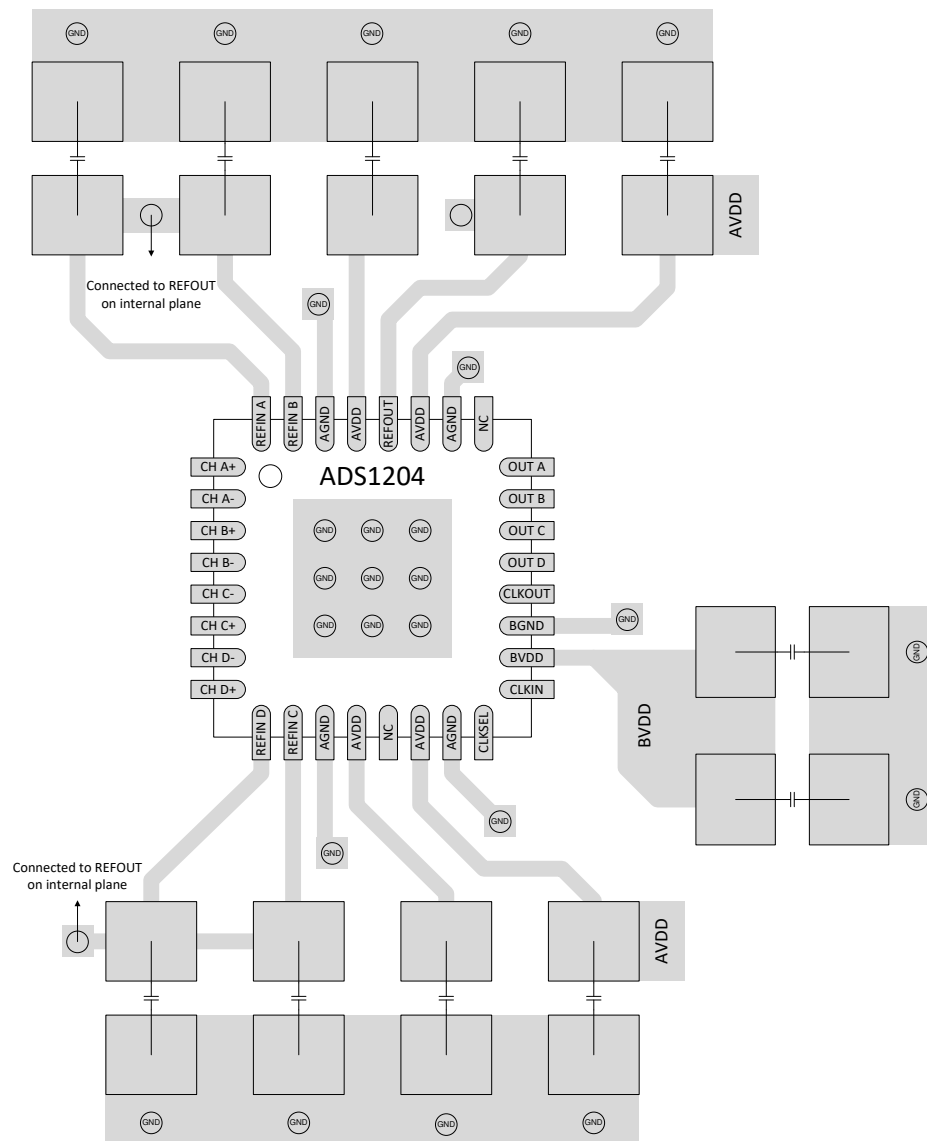

**Figure 36. System Component Placement**
Employing best design practices is recommended when laying out a printed-circuit board (PCB) for both analog and digital components. This recommendation generally means that the layout separates analog components [such as ADCs, amplifiers, references, digital-to-analog converters (DACs), and analog MUXs] from digital components [such as microcontrollers, complex programmable logic devices (CPLDs), field-programmable gate arrays (FPGAs), radio frequency (RF) transceivers, universal serial bus (USB) transceivers, and switching regulators]. Figure 36 shows an example of good component placement. Although Figure 36 provides a good example of component placement, the best placement for each application is unique to the geometries, components, and PCB fabrication capabilities employed. That is, there is no single layout that is perfect for every design and careful consideration must always be used when designing with any analog component.